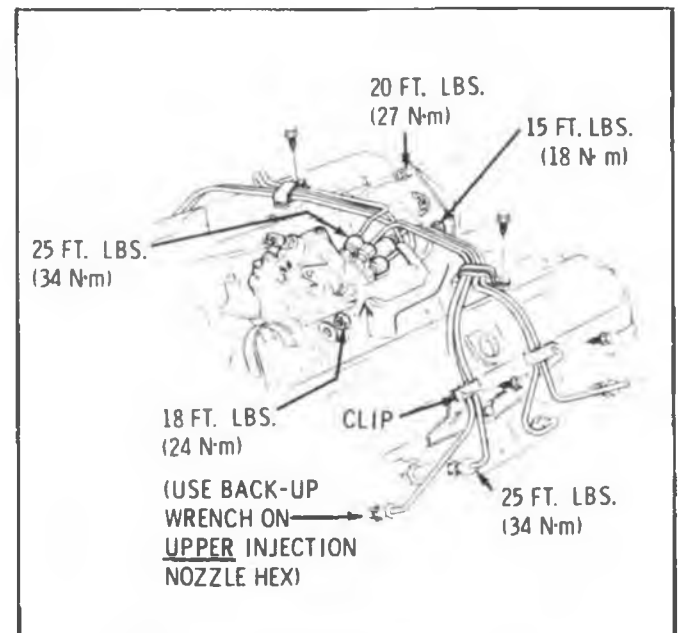

Fig. 5-3 V-8 Injection Lines
1. Install new injection pump line, install loose then torque both ends. See Figures 5-3 and 5-4 for the Torque Specifications. Use a back-up wrench on the nozzle upper hex to prevent nozzle damage. Then install clamps. If several lines are to be replaced, start with the bottom lines.